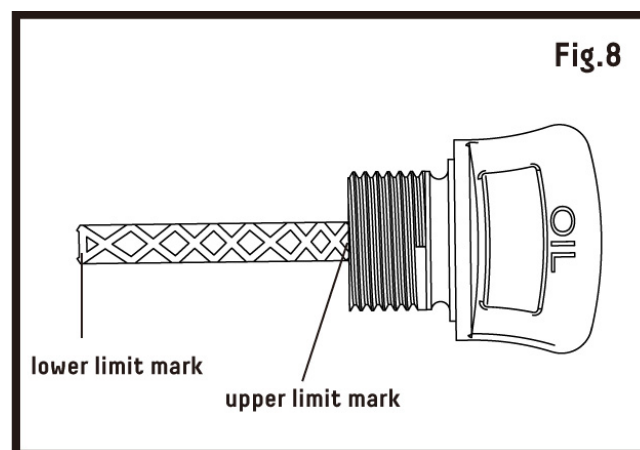

Fig.8
- 3) Remove the dipstick again and check the oil level: the oil level must be between the lower limit mark and upper limit mark on the dipstick. The recommended oil (SAE 5W-30 or equivalent). Do not overfill. Wipe away any spilled oil (see Fig. 8).